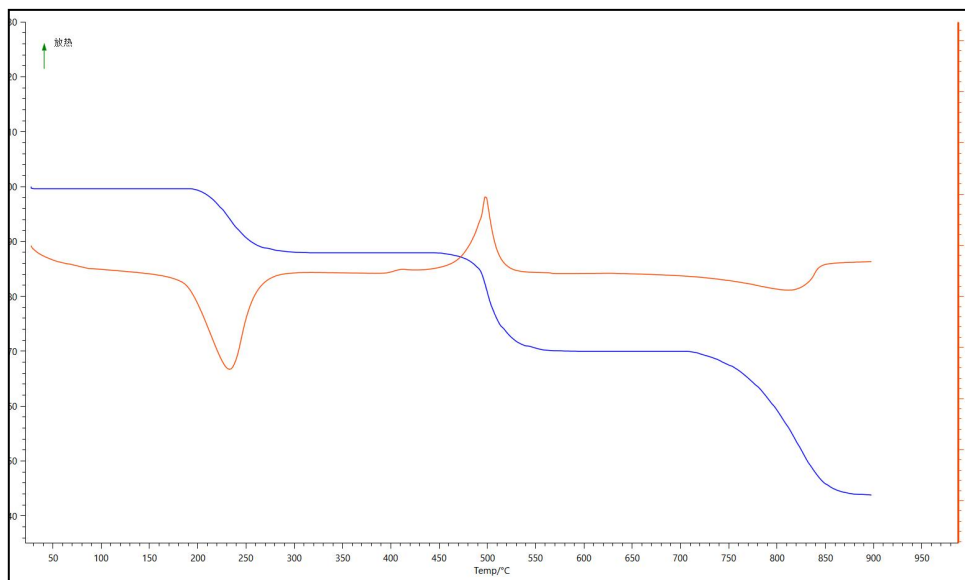
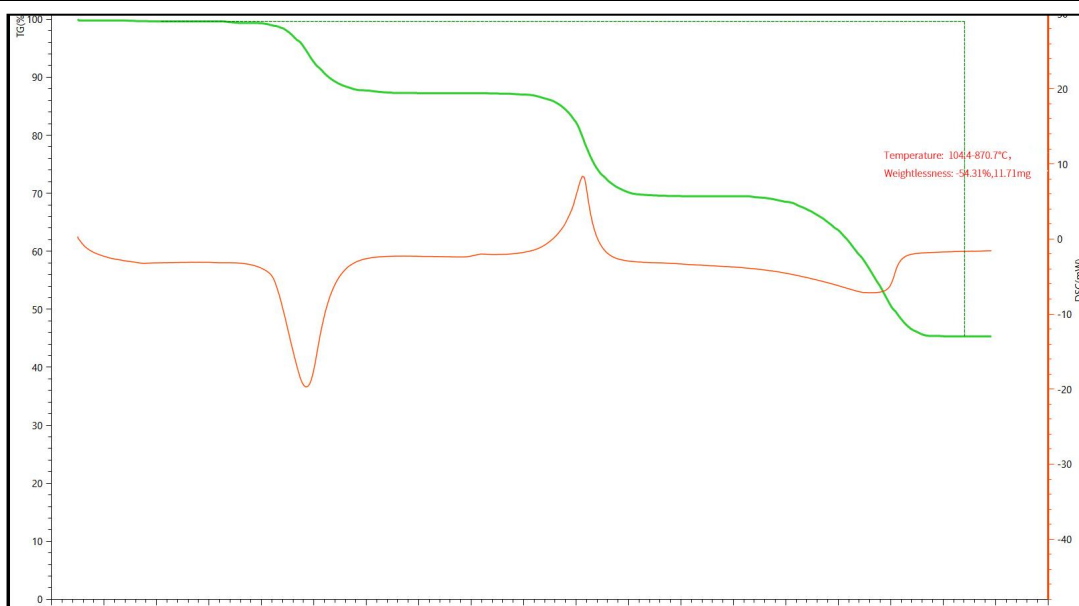

Figure 5-2: Analyze drop-down options
Figure 5-3: Selected spectrum example
2.2 Figure 5-2 and Figure 5-3 below show the details of the [Analysis] dropdown options in the two interfaces. Left-click to select the curve to be analyzed, which will turn green for analysis.